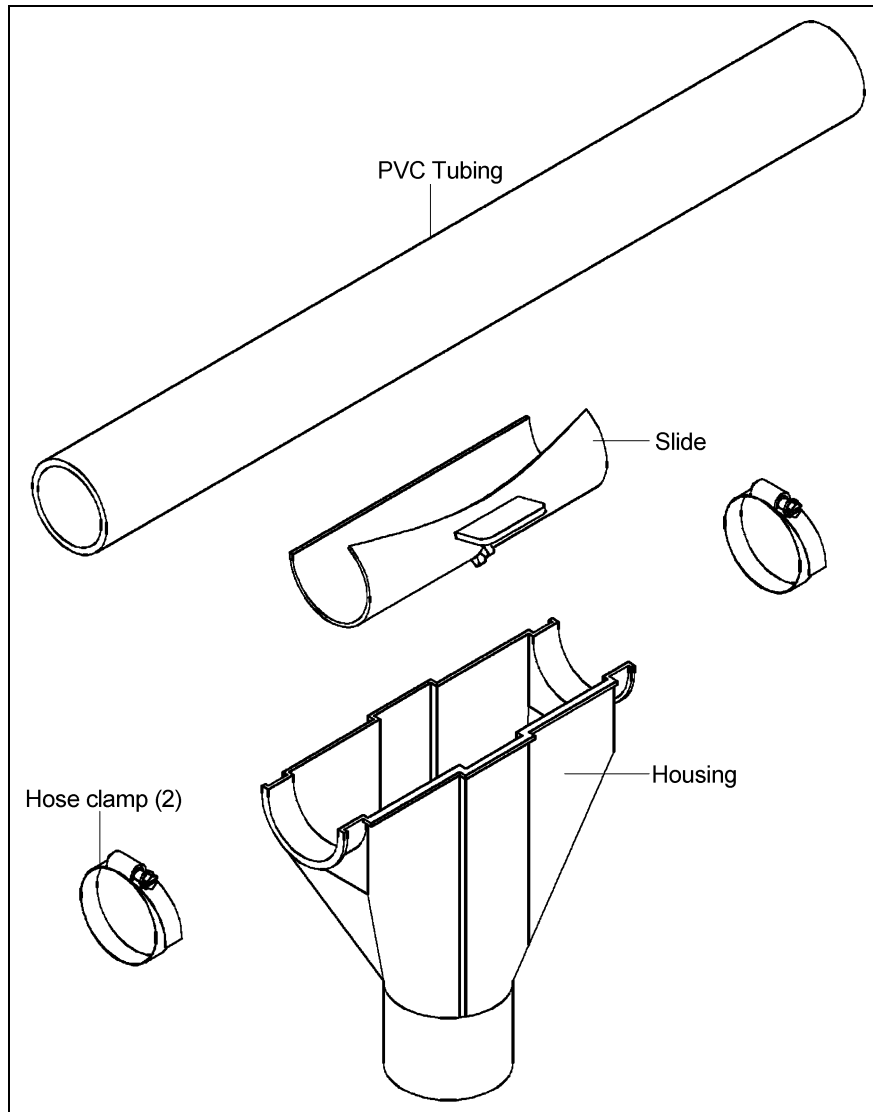

Figure 50 Drop Kit Installation
1. Snap the slide around the tube over the outlet hole. (See Figure 50.)
2. Fasten the housing to the tube using two (2) hose clamps. Make sure the outlet hole is in the middle of the housing.